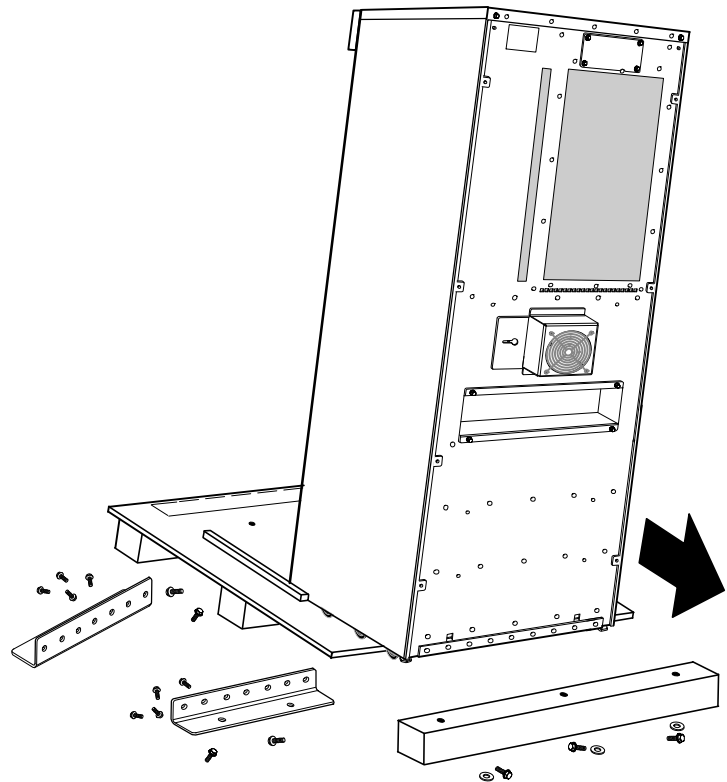

Figure 8. Unloading the Cabinet (UPS Shown)
9. Slowly roll the cabinet toward the rear of the pallet. Once the pallet tilts, continue rolling the cabinet down the pallet until the cabinet touches the floor (see Figure 8).